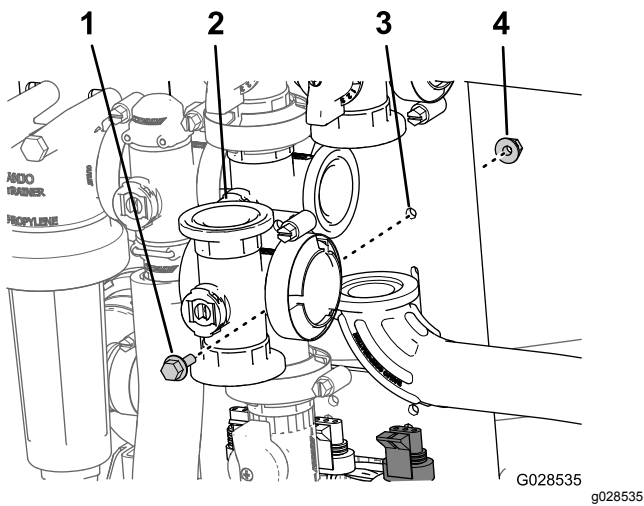

Figure 88
2. Remove the flanged-head bolt and flanged locknut that secures the master boom valve to the valve mount and remove the valve manifold from the machine (Figure 88).